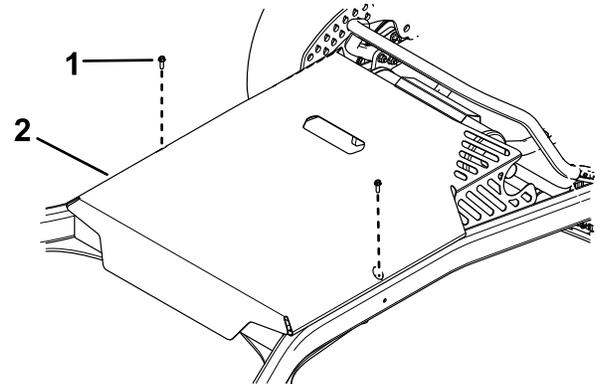

Figure 25
3. Remove the 2 bolts securing the deck cover and remove the deck cover (Figure 25).